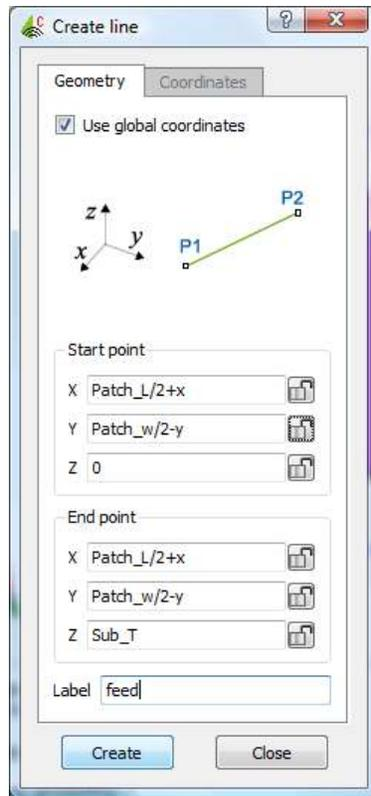

Figure 11.
13. To add the feeding pin, choose the “line” function. Choose the points as shown in Figure 11.